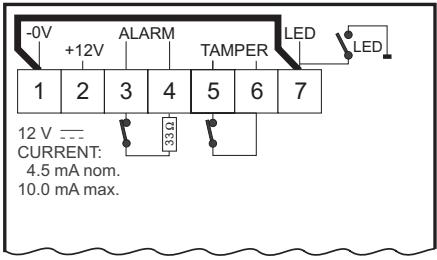

Fig. 6
- Wire detector as shown (Fig. 6).
## LED FUNCTION AND REMOTE CONTROL OF LED (Fig. 6)